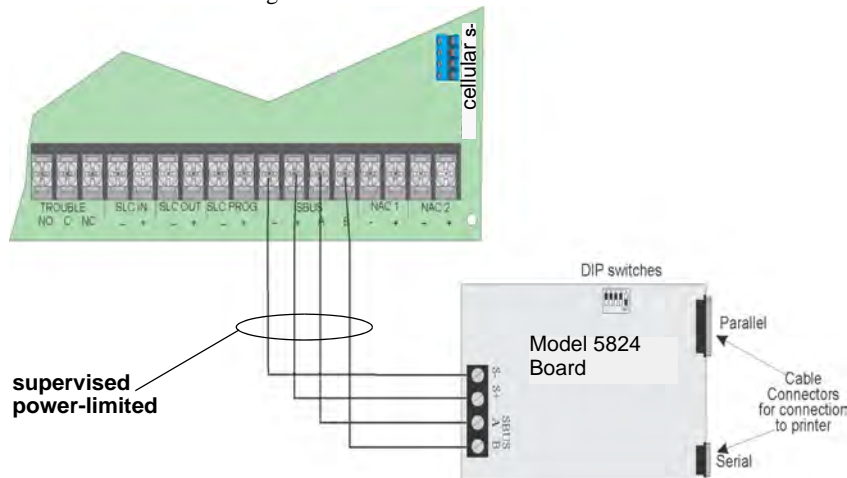

Figure 4.33 5824 Connection to the Panel
2. Connect the 5824 to the panel as shown in Figure 4.33 ..
5. Connect a printer to the 5824 as shown in Figure 4.33.